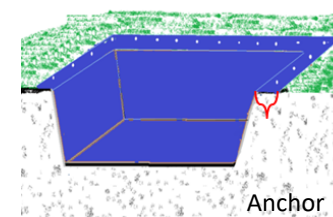

Figure 7
5. Carefully lay out the plastic sheet over the pit as shown in the figure 7. Keep an anchor length (overlap) of 0.5m on all sides of the pit. Fix wooden or bamboo pegs or iron rod through the eyelets of the plastic sheet and or cover the overlapping plastic edges by at least 10cm of mud or soil to strongly anchor the plastic sheet.